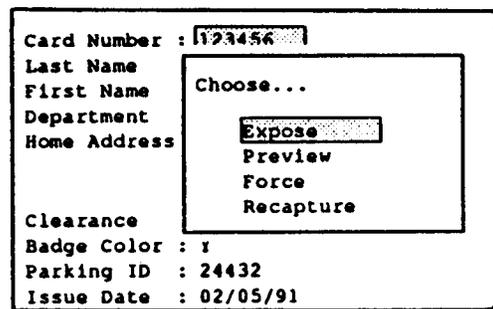

Figure 2-20 Exposure window
13. When the portrait is acceptable, select **Done** to open the Exposure window (Figure 2-20).